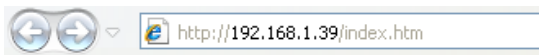

Figure 15: Web Browser Address Bar
2. Enter the IP address of the device (in the address bar of your browser (see Figure 15).